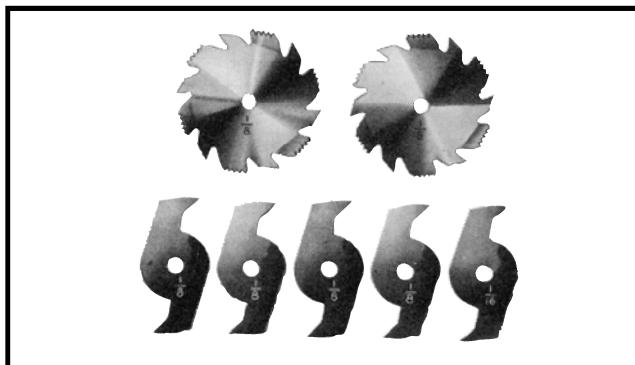
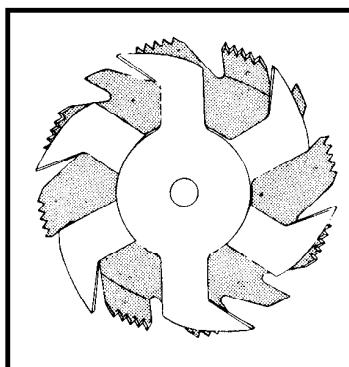
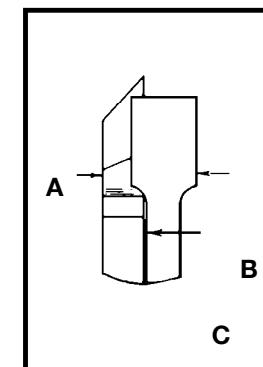

Fig. 52
Fig. 53
Fig. 54
1. Dadoing is cutting a rabbet or wide groove into the work. Most dado head sets are made up of two outside saws and four or five inside cutters, (Fig. 52). Various combinations of saws and cutters are used to cut grooves from  $1/8\approx$  to  $13/16\approx$  for use in shelving, making joints, tenoning, grooving, etc. The cutters are heavily swaged and must be arranged so that this heavy portion falls in the gullets of the outside saws, as shown in Fig. 53. The saw and cutter overlap is shown in Fig. 54, (A) being the outside saw, (B) an inside cutter, and (C) a paper washer or washers, used as needed to control the exact width of groove. A  $1/4\approx$  groove is cut by using the two outside saws. The teeth of the saws should be positioned so that the raker on one saw is beside the cutting teeth on the other saw.